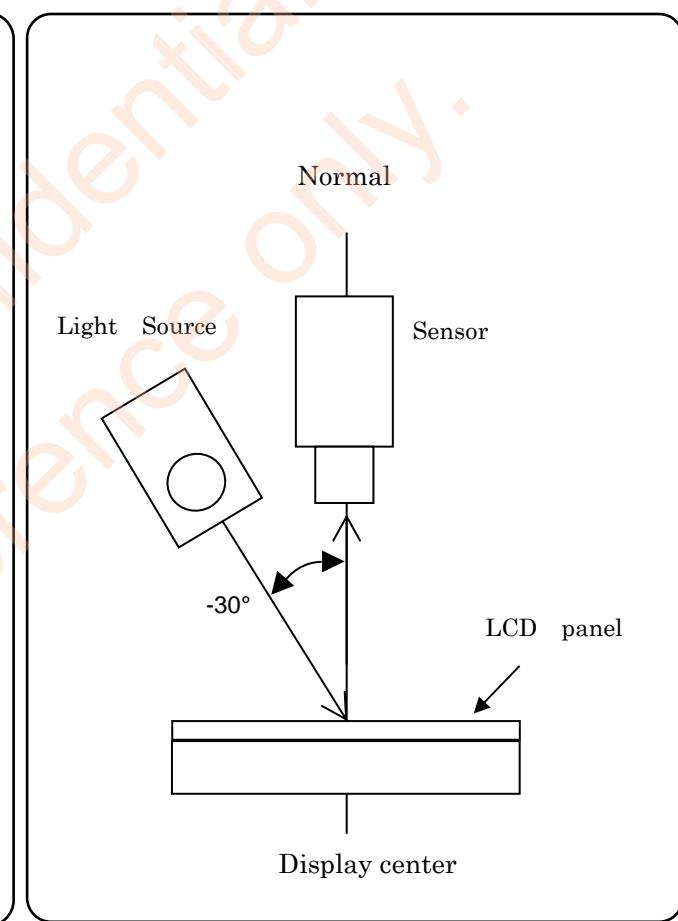

Figure 7-2 Contrast ratio, Reflection ratio,
- ・コントラスト比、反射率、パネル表面色度の測定は図7-2、応答速度の測定は図7-3の測定方法を用いて、
- ・Figure 7-2 is for contrast ratio, reflectivity ratio, and panel chromaticity measurement, and Figure 7-3 is for response time measurement. Both are to be conducted in a dark or room equipment to a dark room